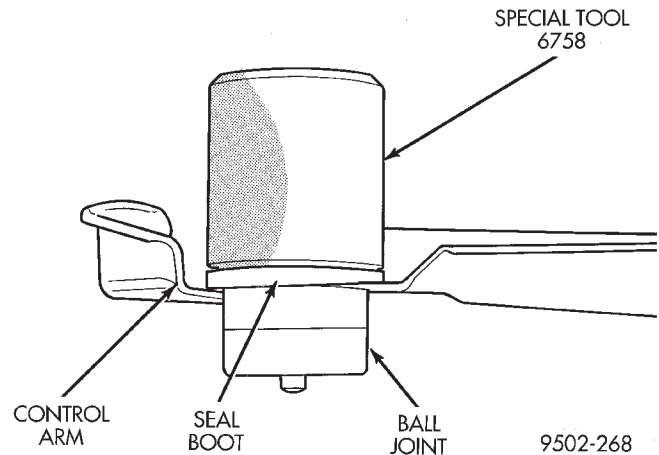

Fig. 79 Seal Boot Installation On Ball Joint
(3) Position Receiving Cup, Special Tool 6758 over sealing boot so it is aligned properly with bottom edge of sealing boot (Fig. 79). Apply pressure **BY HAND** to special tool 6758, until sealing boot is pressed squarely against surface of upper control arm.
(4) Properly lubricate the upper ball joint assembly using only Mopar Multi-Mileage Lube or an equivalent.